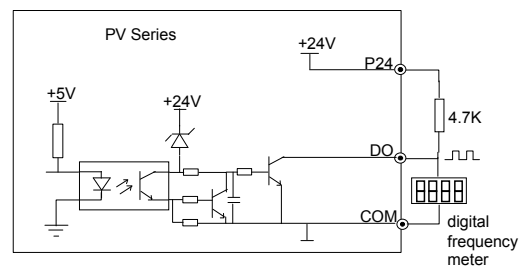

Fig. 3-29 Wire connections 1 of output terminal DO
③ Pulse output terminal DO can use the 24V power supply inside the drive and the wiring is shown in Fig.3-29.